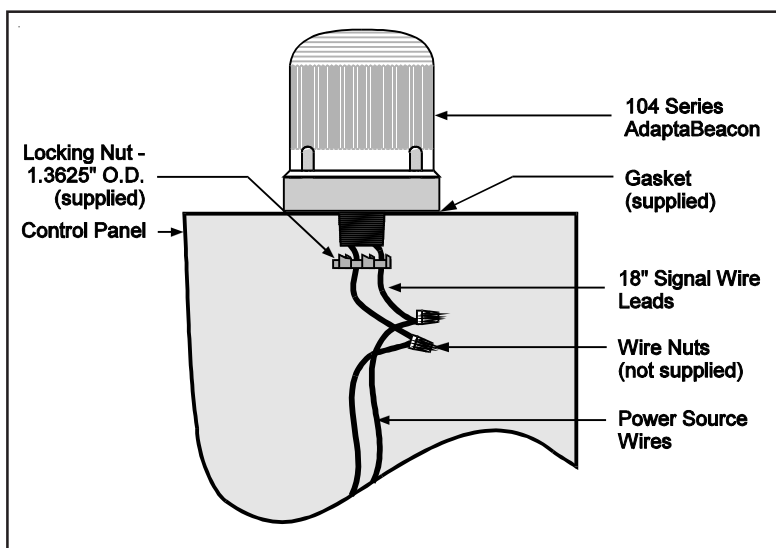

Figure 2. Panel Mounting
Panel Mounting (Figure 2)
- a. For AC models, use wire nuts (not supplied) and connect the signal's black and white wire leads to the power source wires as shown in Figure 2. Polarity is not relevant.
- b. For DC models, connect the signal's red wire to the positive power source wire and connect the signal's black wire to the negative power source wire using wire nuts (not supplied). Polarity must be observed. Refer to Figure 2.
Panel Mounted Modules: Disconnect wiring and remove locking nut securing the base to the panel (Figure 2).